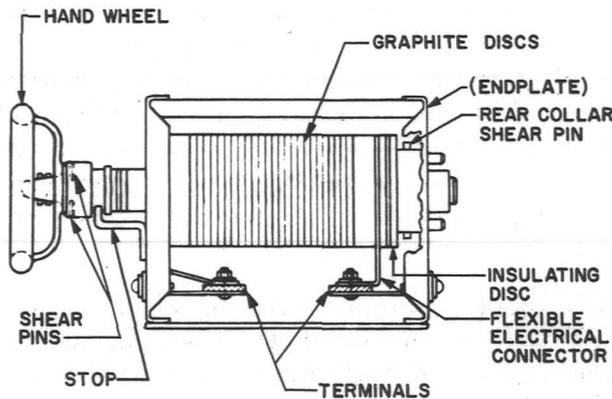

Fig. 4 — KS-15669 Rheostat — Carbon-Pile Type
3.10 Carbon-Pile Construction: A rheostat of this type is shown in Fig. 4. This rheostat consists of graphite discs mounted on a stationary insulated shaft which extends through holes in the discs, an operating handwheel, and a frame for supporting the assembly. The resistance is varied by turning the handwheel to vary the pressure.
3.11 Rear Collar Shear Pin and Graphite Discs: Fig. 4 —